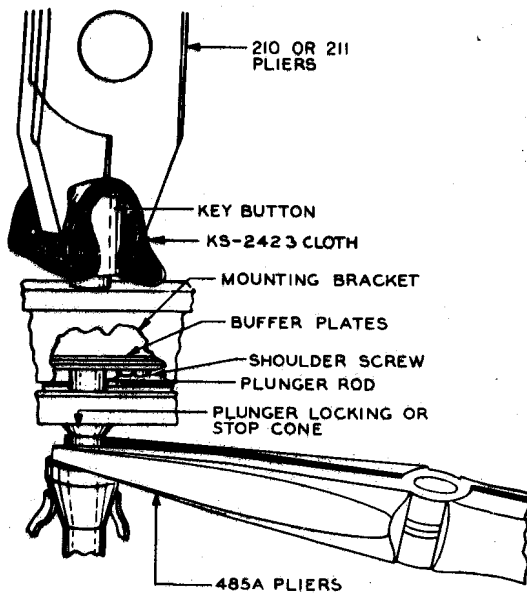

Fig. 53—Method of Removing Plunger Buttons From Plunger Units Not Equipped With Locknuts
3.09 When removing a key button with the 210 or 211 pliers from a plunger unit not equipped with a locknut, hold the plunger rod firmly with the 485A pliers just below the plunger locking or stop cone in order to facilitate the operation. Take care in holding the plunger rod with the pliers to prevent burring of the rod. (See Fig. 53.)